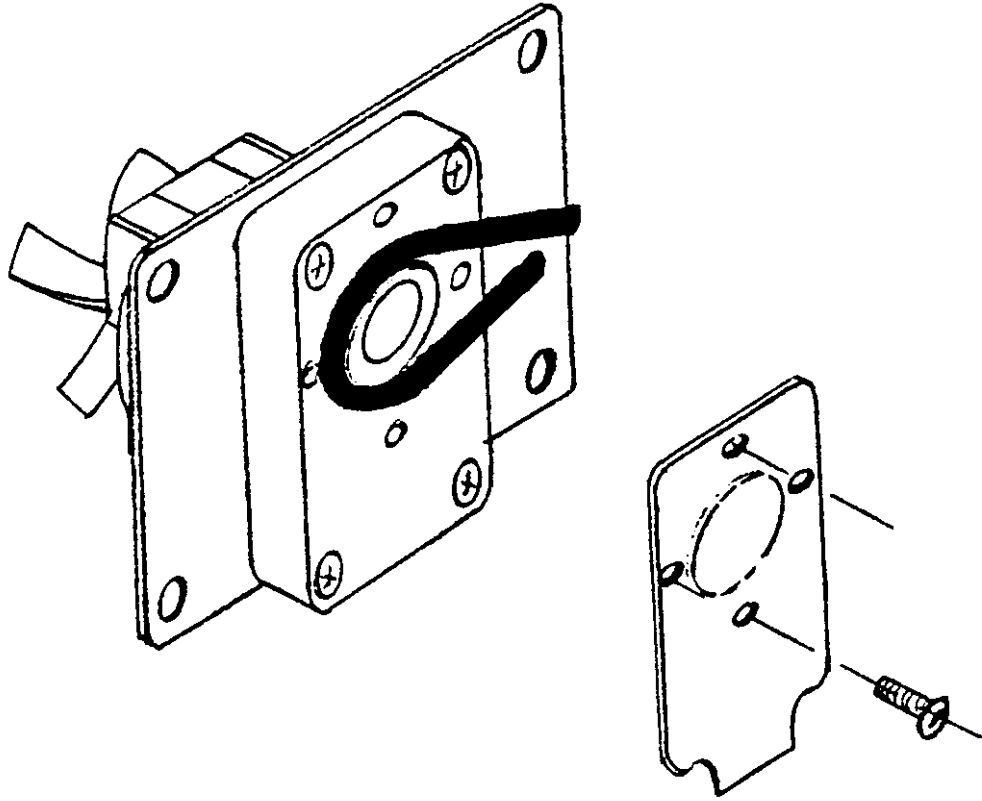

Figure 8
- (1) If possible, purge the NaOH delivery system and peristaltic pump with purified water, as described in the Routine Maintenance section on page 17.
- (2) Unplug the RapidStill II from electrical service.
- (3) Turn the unit around to gain access to the peristaltic pump.
- (4) Remove the four small Phillips screws as shown in Figure 8.
- (5) Remove the pump cover, exposing the pump tube.
- (6) Pull the pump tube straight out of the pump housing.
- (7) Thoroughly rinse the tube and remove the pump fittings and clamps. Retain the fittings and clamps for use on the new tube.
- (8) Install the new tube by reversing the above steps.